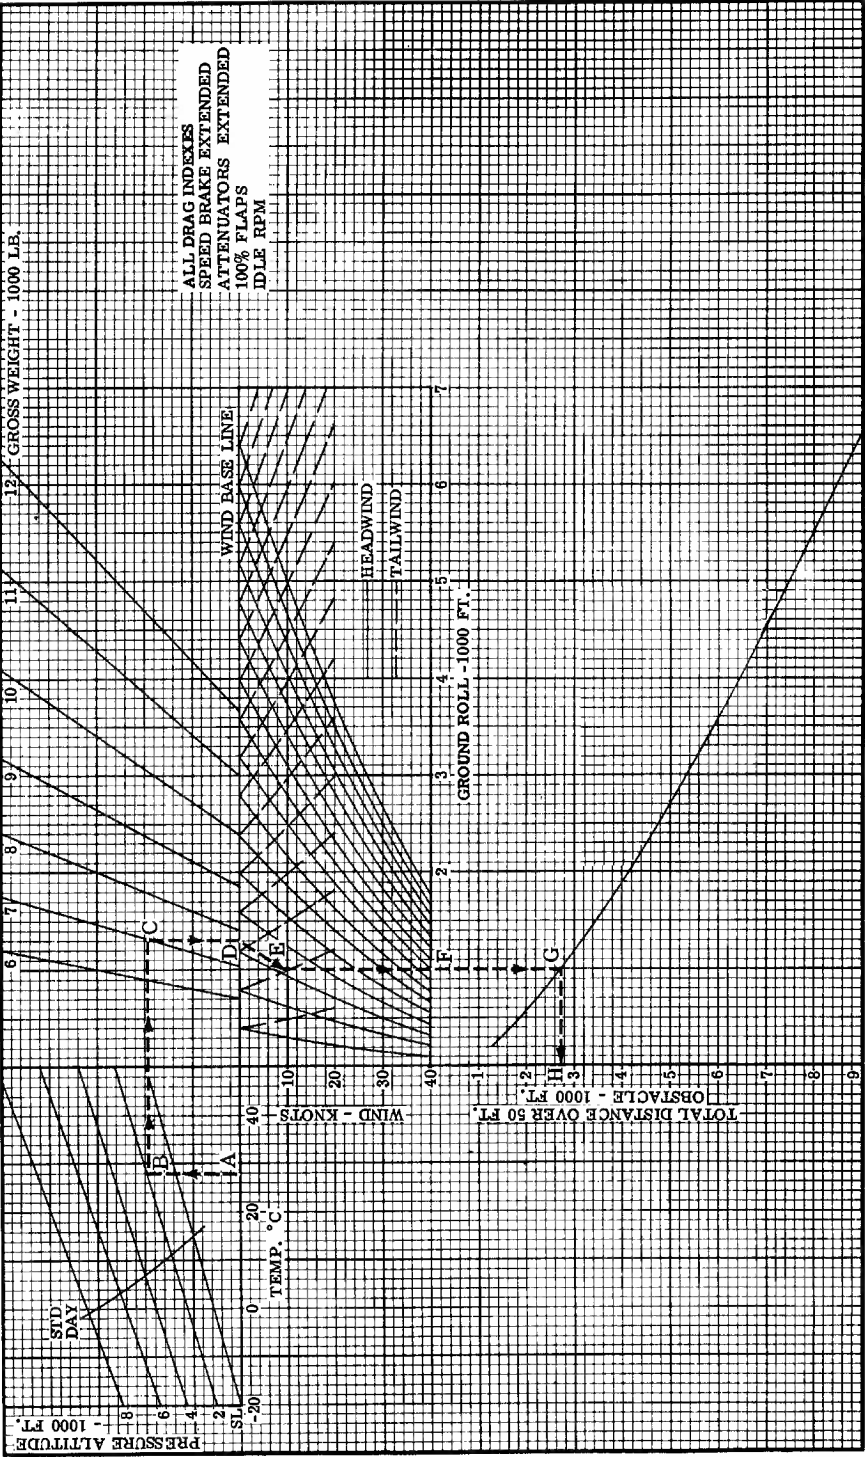
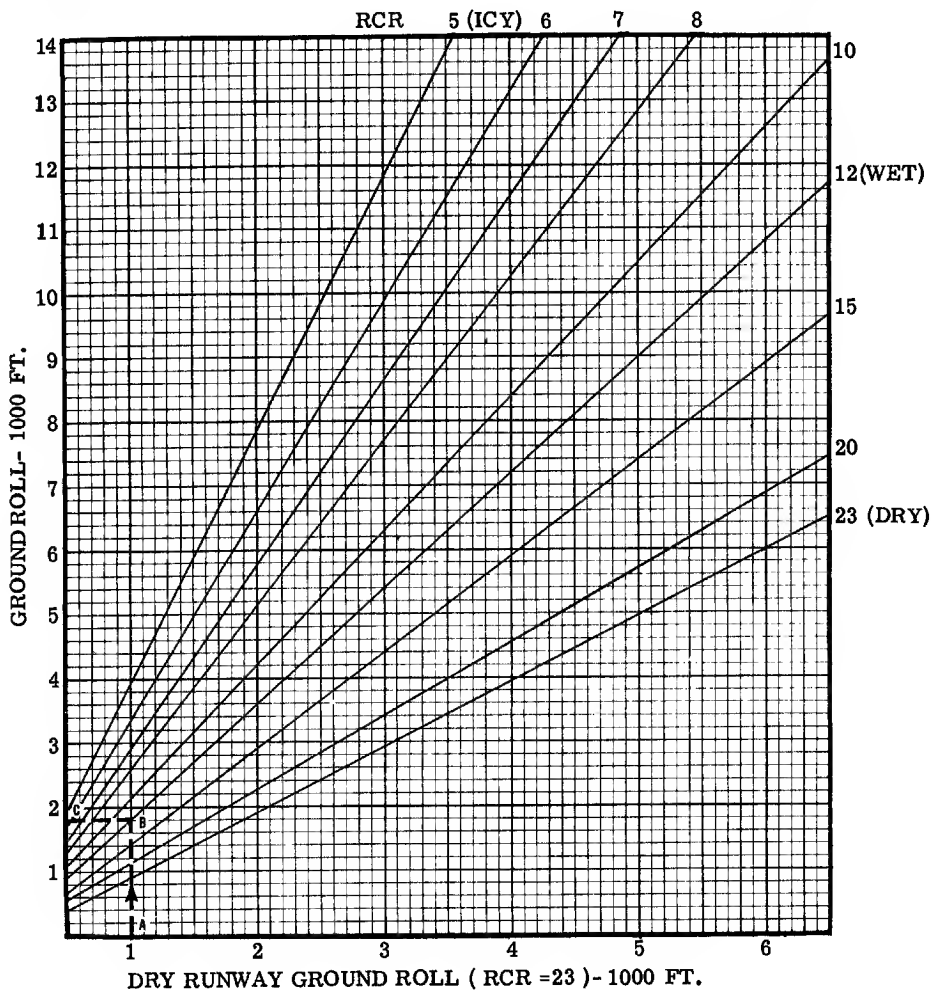

Figure A8-2
Figure A8-3
The Normal Landing Distance Chart (figure A8-2) is used to determine the distance required to clear a 50-foot obstacle, touchdown and come to a complete stop. The chart assumes a normal approach speed of 110 KIAS, 100% flaps, speed brake extended, idle rpm below 50 feet, and normal braking during the ground roll. The distance required for flaps up landings may be found by adding 20% to the distance with 100% flaps. The ground roll is increased by 75% when landing on wet, slippery runway.
SOLUTION: (See figure A8-2)
The ground roll distances given in figure A8-2 are for an RCR of 23, which represents a normal dry hard surface runway. The corrected ground roll for an RCR less than 23 may be found from figure A8-3 using the dry runway distance and the latest reported RCR for the destination runway. To determine the corrected total distance over a 50 foot obstacle, first subtract the dry runway ground roll from the total distance shown in figure A8-2 to find the air distance, then add the corrected ground roll. If the reported RCR is equal to or greater than 23 use the distances shown directly in the Normal Landing Distance chart without any further corrections.
SOLUTION: (See figure A8-3)
- c. Landing roll (From figure A8-2)..... 3100 ft.
- d. Landing Roll corrected for RCR (From figure A8-2) 5580 ft.
- c. Landing roll (From Figure A8-2) 840 ft.
- d. Landing roll corrected for RCR (From Figure A8-3).....1520 ft.